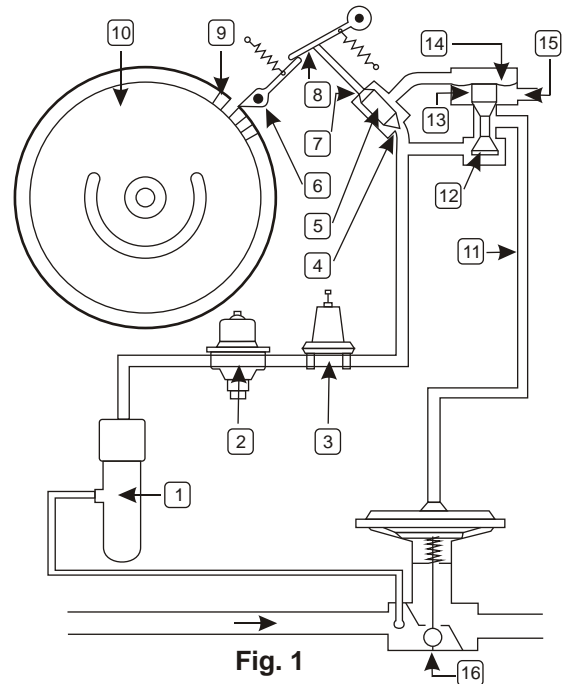

Fig. 1
Assume that timing clip (9) is moved out of the path of the trigger, as shown in Figure 1. When the point of the trigger (6) falls into the slot left by the displaced clip, the other end of the trigger exerts a force on the leaf spring (8) This in turn allows the primary 3-way valve (5) to open the supply port (4) and close the exhaust port (7) The supply gas then flows through the primary 3-way valve, loading the diaphragm (14) of the secondary 3-way valve. The force exerted on this diaphragm closes the exhaust valve (13) and opens the supply valve (12) to load the diaphragm of the motor valve (16).